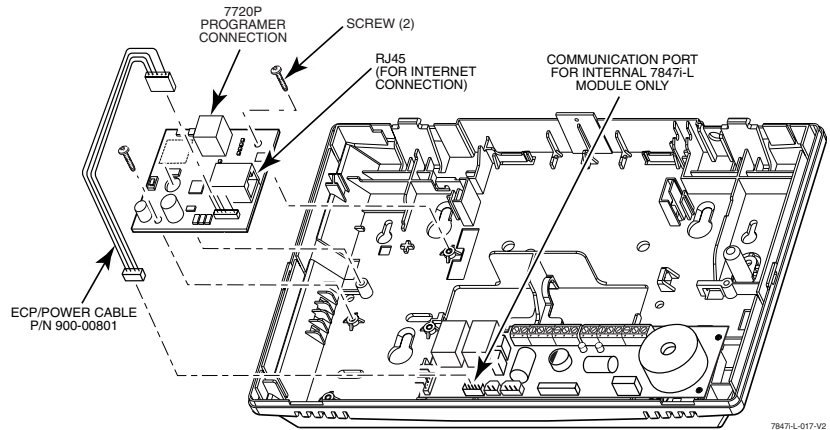

Figure 4 - Mounting the 7847i-L
1. Install the module into the LYNXR-2 Series back case as shown in Figure 4 and secure it with the two provided screws.
2. Connect the provided ECP Power/Communications cable PN 900-00801 between the module and the PC board as shown in Figure 4. This cable provides DC power and ground and data in/out connections for the module.